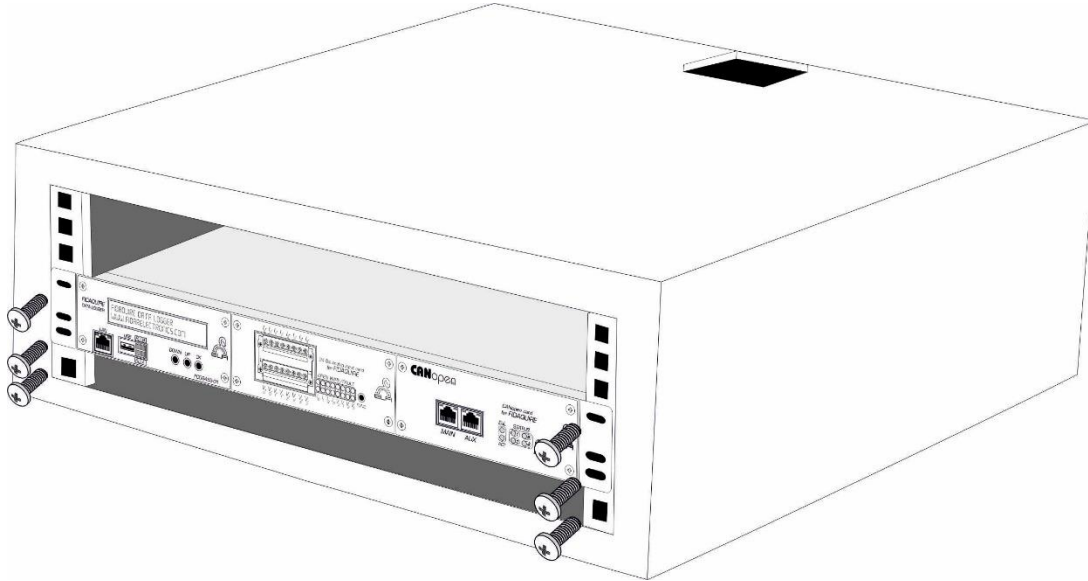

Figure 5: How to Mount the FIDAQUIRE Data Logger in a Rack
**Step 2:** Mount the device inside the rack using the installed brackets, as shown in Figure 5.